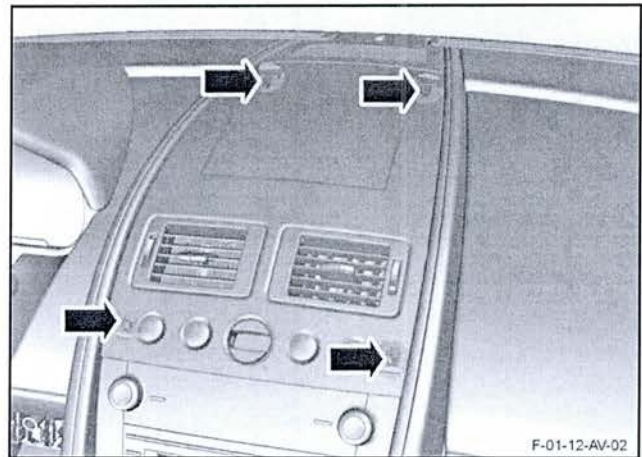

Figure 2
3. Release the veneer bezel for the IP from the four clips that attach it to the IP (refer to Figure 2).